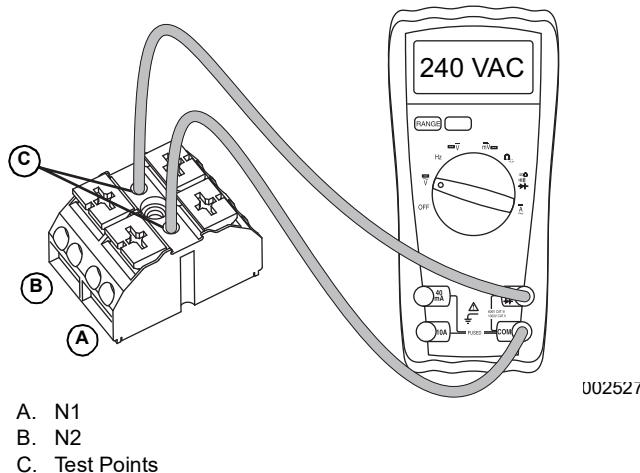

Figure 2-7. Terminal Block Test Points
3. See **Figure 2-7**. Connect one test lead to Wire N1 at the terminal block in the generator control panel. Connect the other test lead to Wire N2. Utility line-to-line voltage should be measured.